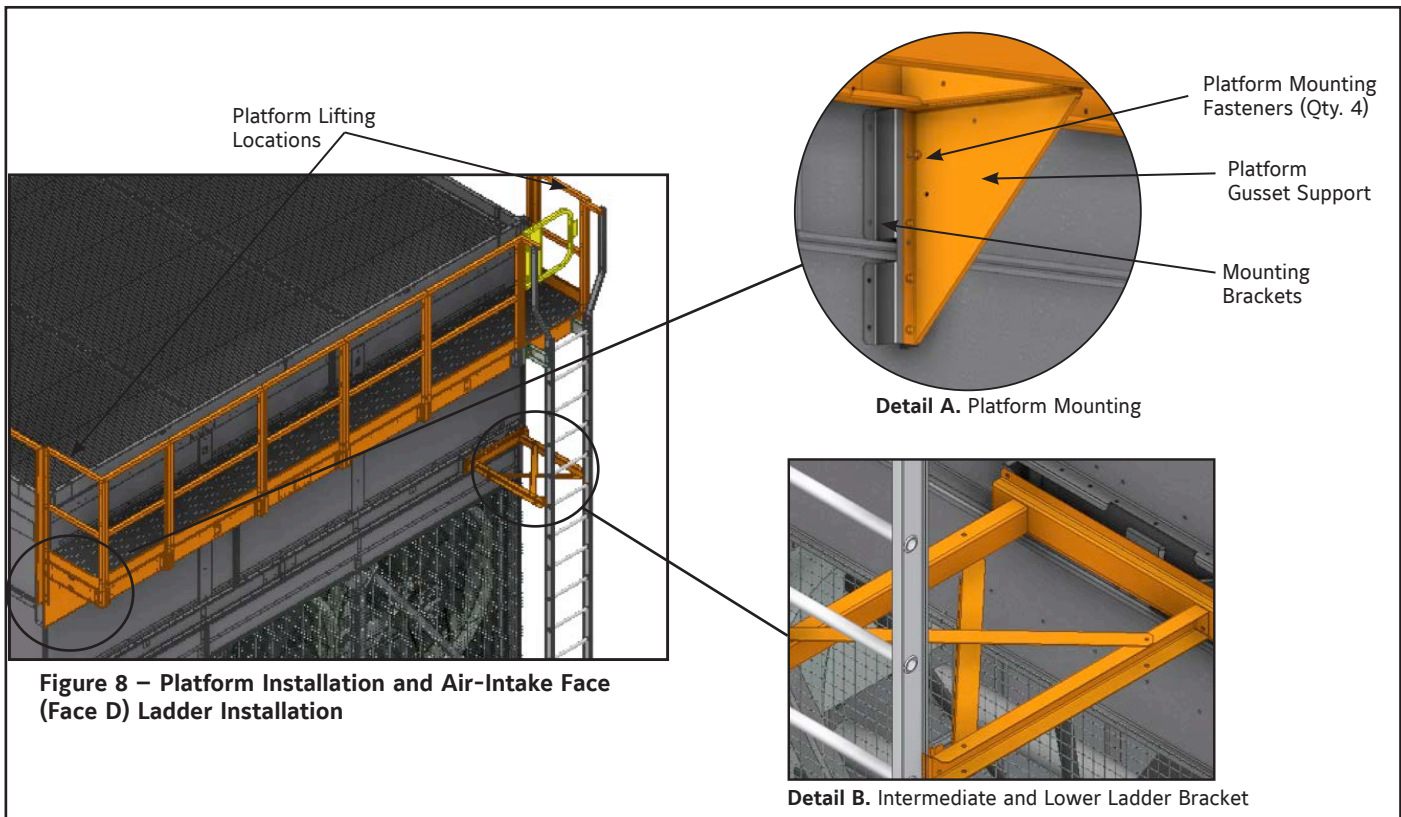
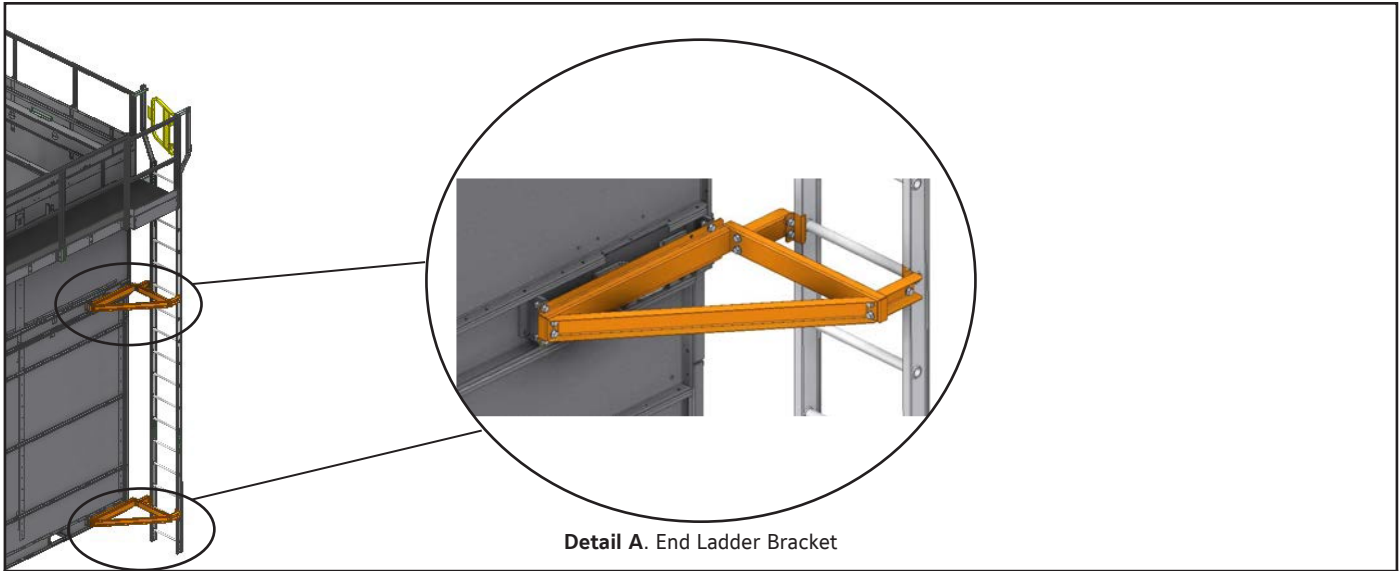

Figure 8 – Platform Installation and Air-Intake Face (Face D) Ladder Installation
Figure 9 – End Ladder Installation
1. Lift the platform by fastening the lifting device to the top guard rail so it does not slide while lifting. Lift the platform so that the support gussets align with the mounting brackets on the unit. See Figure 8.
2. Fasten the platform gussets to the mounting brackets using the supplied hardware as shown in Figure 8, Detail A.
3. Loosely fasten the lower and intermediate appropriate ladder brackets and diagonal braces to the factory installed ladder brackets as shown in Figure 8, Detail B and Figure 9, Detail A. Check your submittal for the ladder orientation ordered. Attach the ladder to the platform and fasten the lower and intermediate brackets to the ladder side rails as shown in Figure 8, Detail B and Figure 9, Detail A.